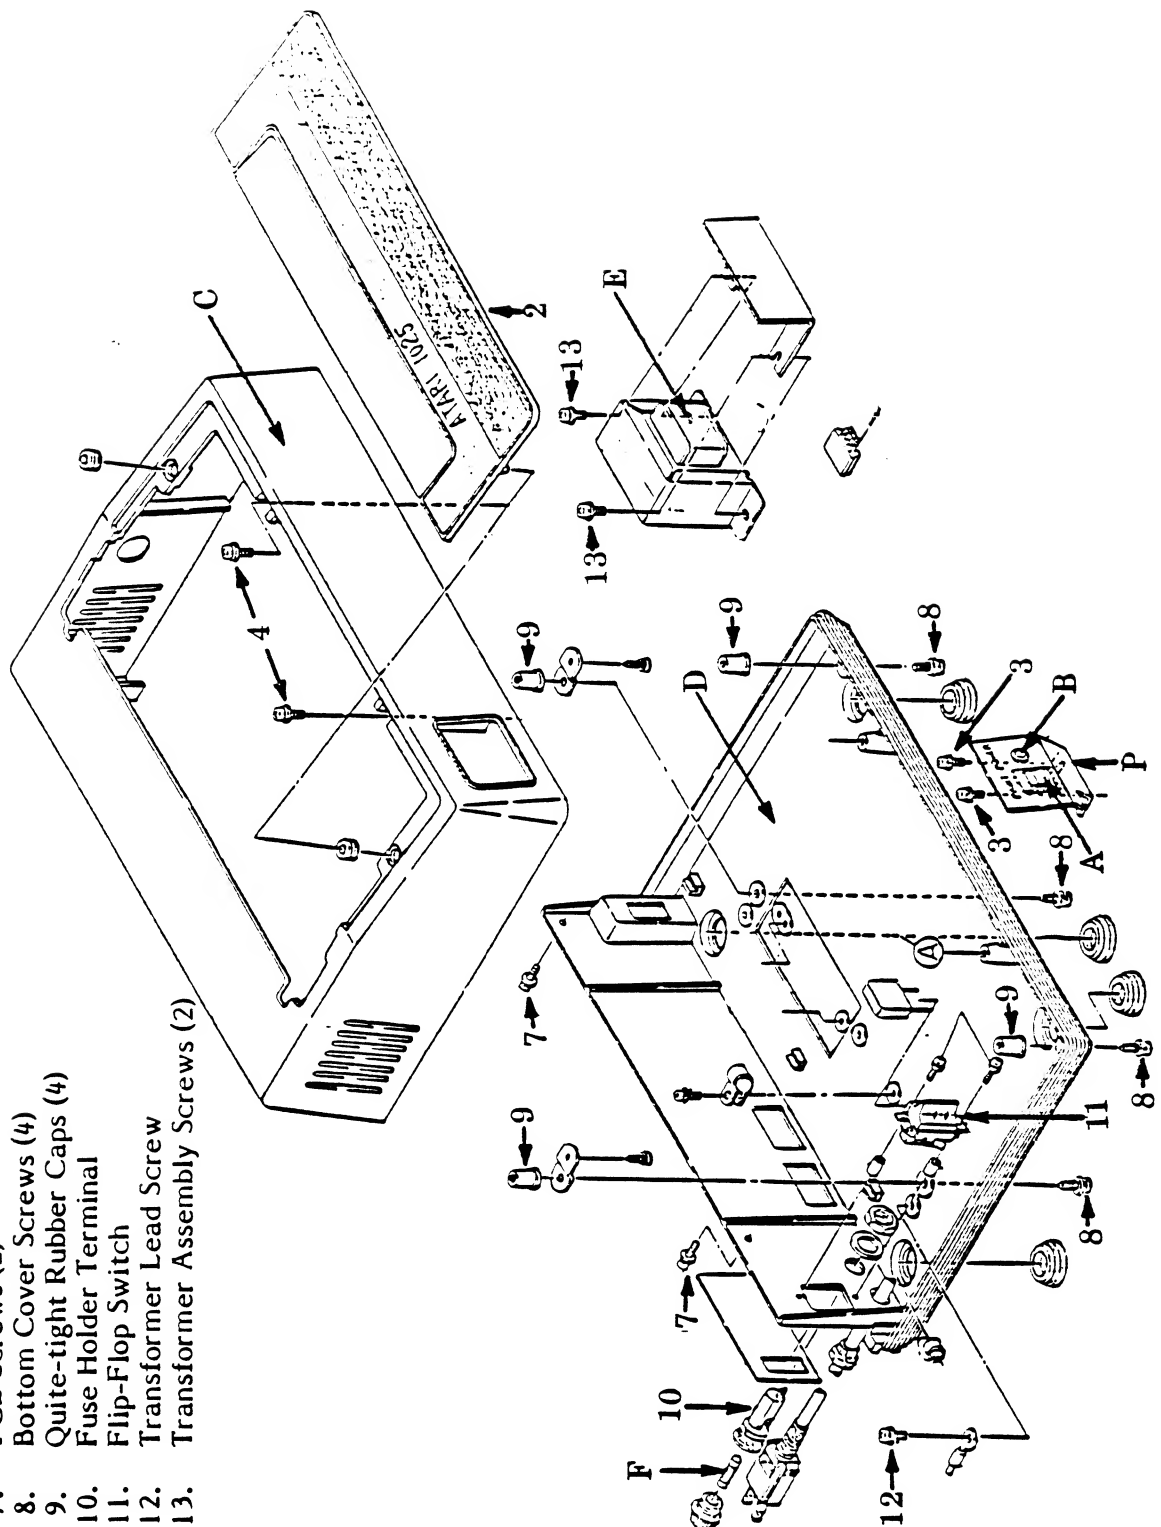

Figure 4-2. Cover Unit (Q)
- Insert and tighten the four bottom cover screws (Figure 4-2, #8) in their Quite-tight rubber caps (max. torque of 4-5 kg. cm.).
- Insert the PCB straight down, lining up the connectors with the rear panel I/O apertures and the PCB with the two PCB screw postholes (Figure 4-2, #7). Insert and tighten the screws.
- Insert and tighten the two upper cover screws (Figure 4-2, #4) on the inside of the front panel of the upper cover.
- Slide the PRINT POWER switch assembly forward and secure it with the switch assembly screws (Figure 4-2, #3) so that there is no gap between the assembly and the upper cover.